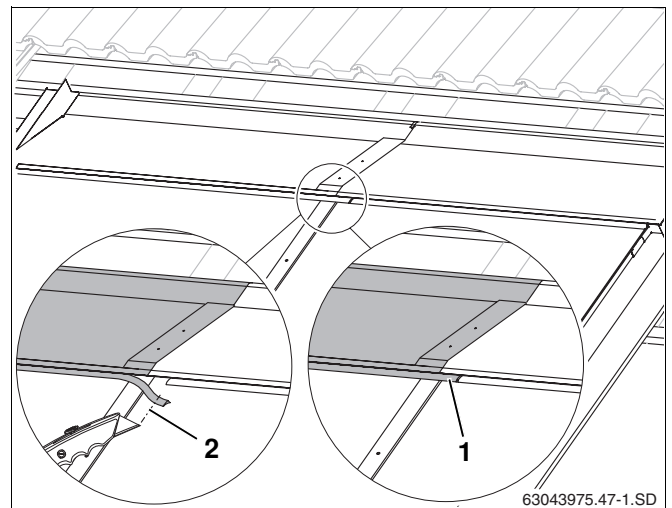

Fig. 56 Upper left facing collector
- Shorten the rubber lip (Fig. 56, **Item 2**), so that it touches the rubber lip on the right-hand facing collector.
- Place rubber lip on the left-hand facing collector onto the fold on the right-hand facing collector (Fig. 56, **Item 1**).